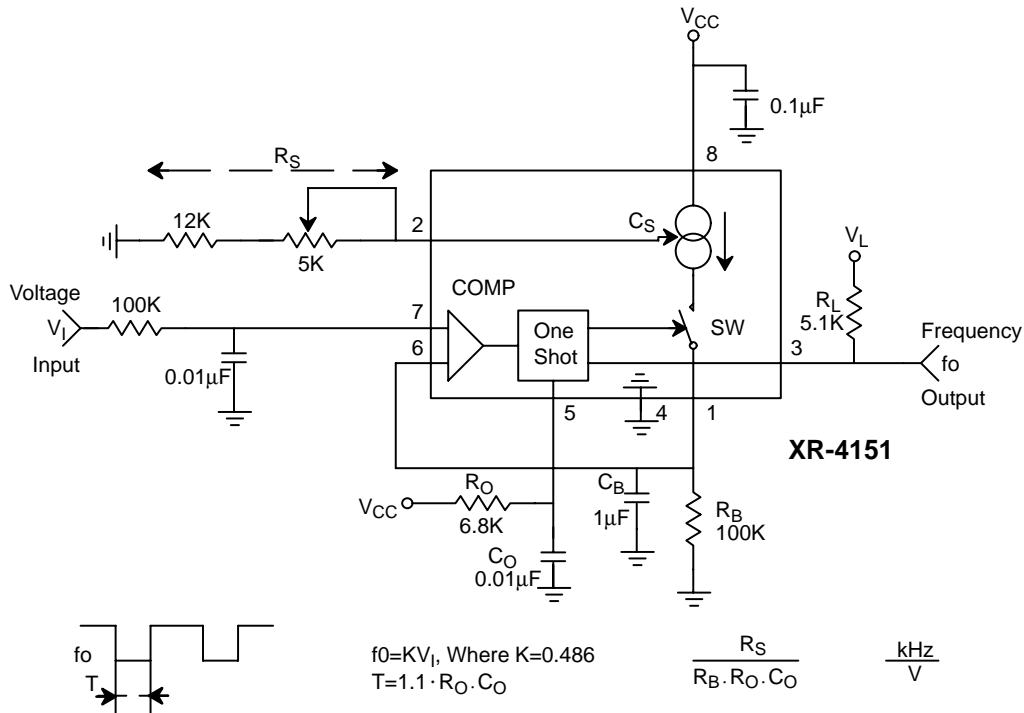
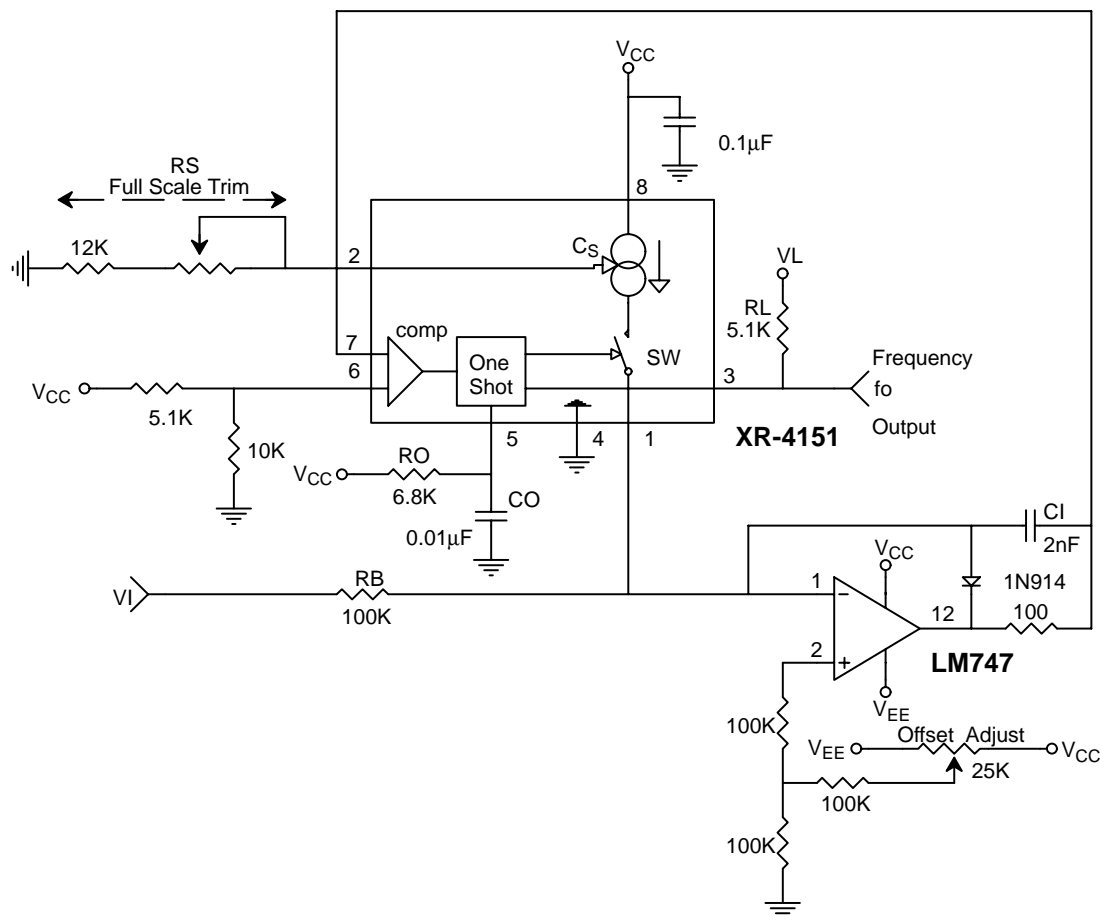

Figure 2. Voltage-to-Frequency Converter
Figure 3. Precision Voltage to Frequency Converter
In this application, the XR-4151 functions as a stand alone voltage-to-frequency converter operating on a single positive power supply. Refer to the functional block diagram and *Figure 2*, the circuit connection for single supply voltage-to-frequency conversion. The XR-4151 contains a voltage comparator, a one-shot, and a
Figure 2 shows the simplest type of VFC that can be made with the XR-4151. The input voltage range is from 0 to +10V, and the output frequency is from 0 to 10kHz. The full scale frequency can be tuned by adjusting R_S , the output current set resistor. This circuit has the advantage of being simple and low in cost, but it suffers from inaccuracy due to a number of error sources. Linearity error is typically 1%. A frequency offset will also be
introduced by the input comparator offset voltage. Also, response time for this circuit is limited by the passive integration network $R_B C_B$. For the component values shown in Figure 2, response time for a step change input from 0 to +10V will be 135msec. For applications which require fast response time and high accuracy, use the circuit of Figure 3.
In this application (*Figure 3*) the XR-4151 is used with an operational amplifier integrator to provide typical linearity of 0.05% over the range of 0 to -10V. Offset is adjustable to zero. Unlike many VFC designs which lose linearity below 10mV, this circuit retains linearity over the full range of input voltage, all the way to 0V.
The operational amplifier integrator improves linearity of this circuit over that of *Figure 2* by holding the output of the source, Pin 1, at a constant 0V. Therefore, the linearity
4. Avoid stray coupling between pins 5 and 7; it could cause false triggering. For the circuit of *Figure 2*, bypass pin 7 to ground with at least $0.01\mu\text{F}$. This is necessary for operation above 10kHz.
1. Set $R_S = 14k\Omega$ or use a 12K resistor and 5K pot as shown in the figures. (The only exception to this is *Figure 3*).
3. a) For the circuit of *Figure 2* make $C_B = 10^{-2} [1/fo]$ Farads.
4. a) For the circuit of *Figure 3* keep the values of R_B as shown and use an input attenuator to give the desired full scale input voltage.
- b) For the precision mode circuit of *Figure 3*, set $R_B = V_{IO}/100\mu A$ where V_{IO} is the full scale input voltage.